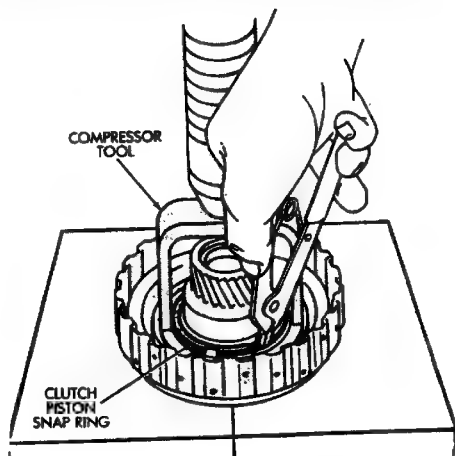

Fig. 8 Removing Clutch Piston Snap Ring
(5) Replace clutch pack retainer if stroke length is incorrect. Refer to chart in Specifications section for replacement retainer thicknesses.
(6) Remove clutch pack snap ring and remove the clutch pack.
(7) Compress piston return spring with tool B.Vi. FM. 27 and shop press and remove piston snap ring (Fig. 8).
(8) Remove compressor tool and piston return springs.